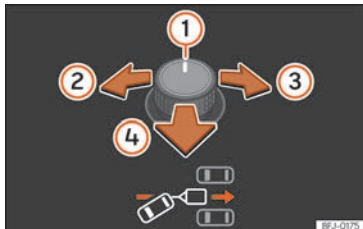
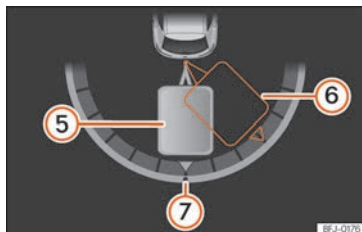

Fig. 207 Rotary exterior mirror controls.: adjust the trailer angle.
Fig. 208 Instrument panel display: engage reverse gear
Key of the **Fig. 207**, **»» Fig. 208**:
• Tilt the rotary control until the desired direction is reached **»» Fig. 207**. A representation of the tow vehicle and trailer set is shown on the instrument cluster screen for guidance purposes **»» Fig. 208**.